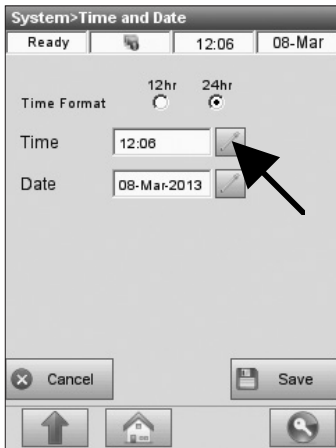

Fig. 3-4 Time and Date
4. In the **<System > Time and Date>** screen (Fig. 3-4), press  to leave the default time and date setting unchanged, or press the  button to call up a numeric keypad that can be used to change the time and date setting.